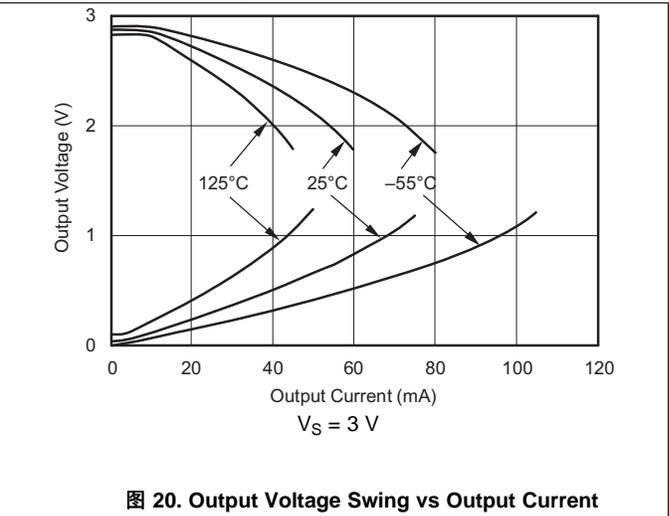
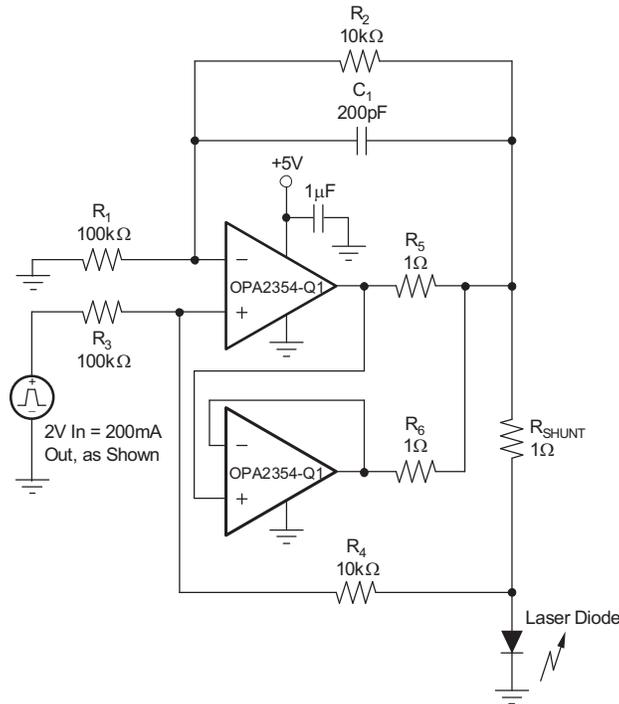

图 20. Output Voltage Swing vs Output Current
图 31. Parallel Operation
- (1) See typical characteristic graph *Output Voltage Swing vs Output Current* (图 20).
(2) Not production tested
The device uses a class-AB output stage with common-source transistors to achieve rail-to-rail output. For high-impedance loads ($> 200\ \Omega$), the output voltage swing is typically 100 mV from the supply rails. With 10- Ω loads, a user can achieve a useful output swing while maintaining high open-loop gain; see 图 20 (*Output Voltage Swing vs Output Current*).
For maximum reliability, TI does not recommend running a continuous DC current greater than $\pm 100\text{ mA}$; see 图 20 (*Output Voltage Swing vs Output Current*). Operate the OPAx354-Q1 family of devices in parallel to supply continuous output currents greater than $\pm 100\text{ mA}$, as shown in 图 31.